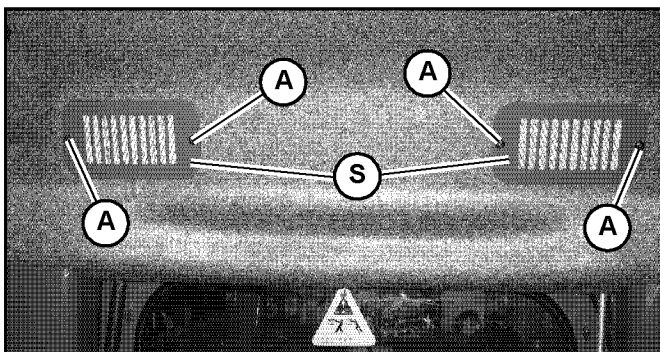

Fig. 155 – Cab Air Filters
2. Remove fasteners (A, Fig. 155) securing filter grilles (S) to the cab wall. Remove and discard the old filter elements.
3. Insert new filter elements and secure with grilles (S) and fasteners (A). Make sure the filter elements are completely seated in the openings and the grilles are firmly seated flush to the cab wall.